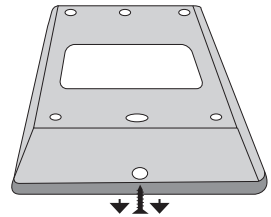

Fig. No. 3
1. Remove the screw located on the bottom side of the enclosure (see Fig. No. 3)
9. Screw up the bottom side of the enclosure. (see Fig. No. 3)